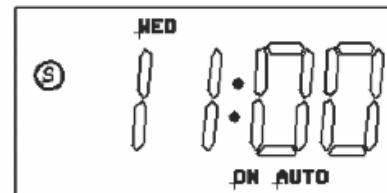

Figure B-22: Summer mode
1. In operating mode, pressing the 'PROG' and 'TIME' (combination of buttons) to set the summer mode. The clock will forward on one hour. Refer to Figure B-22.